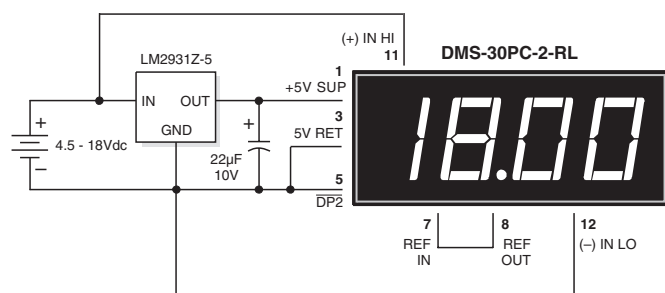

Figure 8. 4.5-18V Power Supply Monitor
6. Power Supply Monitoring: One of the most common digital panel meter applications involves monitoring the output voltage of the system power supply — often this supply also powers the meter itself. The low-power, red LED DMS-30PC-2-RL can be configured to allow power supply monitoring over the range of 4.5-18Vdc. The circuit in Figure 8 uses a low-drop-out, three-terminal regulator (LM-2931Z-5, available from National Semiconductor) to provide regulated 5V power to the meter. The LM-2931 was chosen because it has the following on-chip protection features: reverse polarity, short circuit